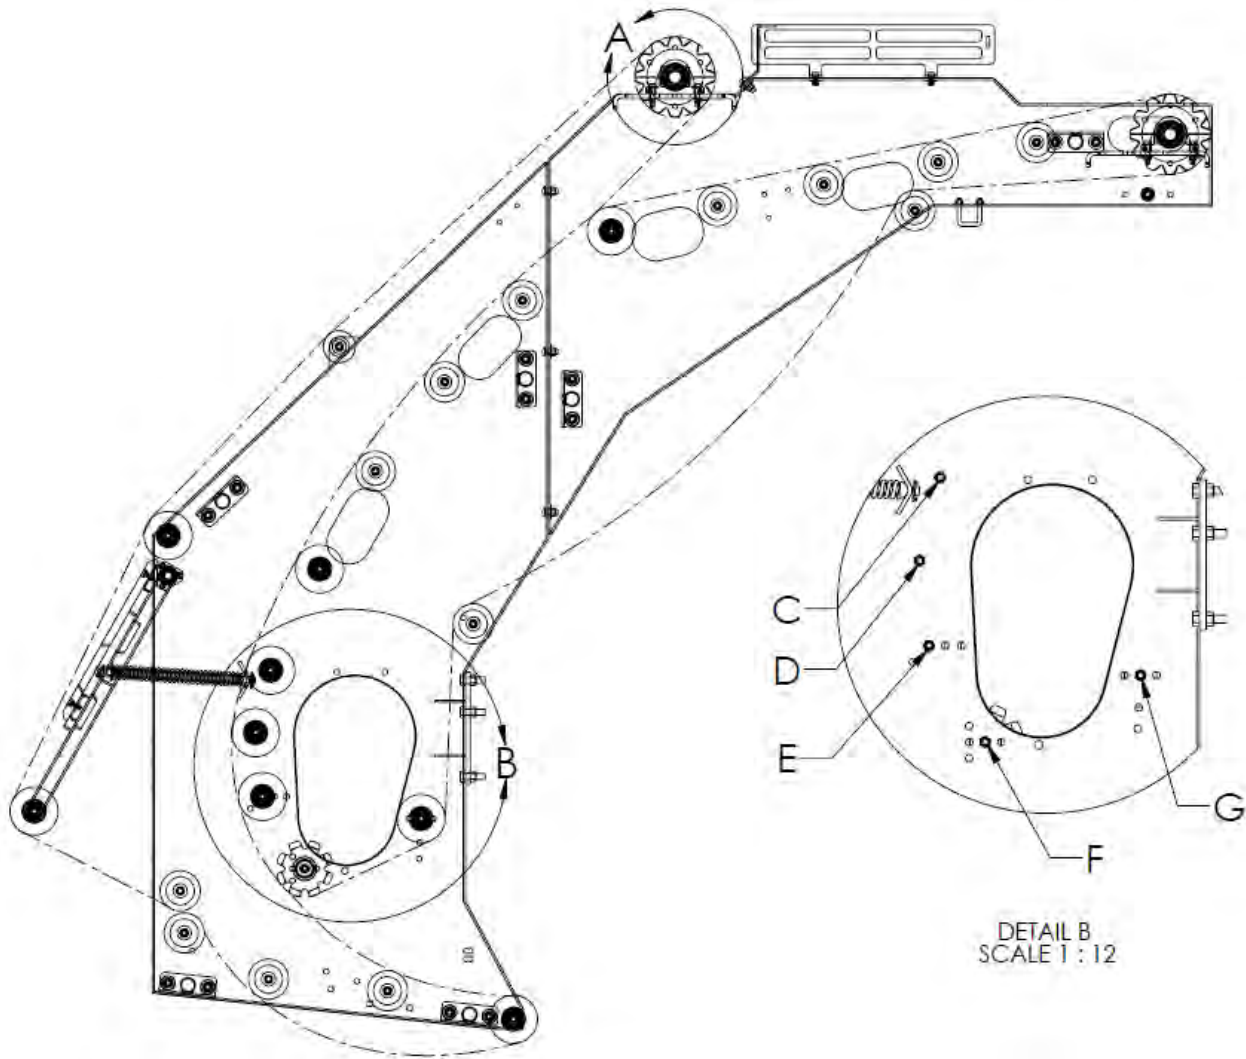

Figure 74: Rear Scrub shown with Scrub Chain, Rollers, and Head Shafts
7.25.1 Inside Roller Location: The inside rear scrub rollers come standard in locations C, D, E, F, and G shown in Figure 74.
The outside scrub chain tension is adjustable to increase or decrease the capacity for beets. To increase the capacity of the scrub chain, head shaft (Detail A), shown in Figure 74, must be moved back to provide more slack in the chain. To adjust the head shaft location: